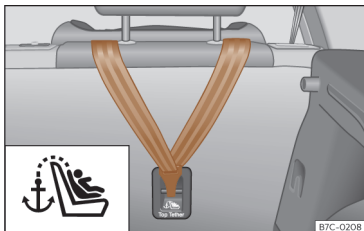

Fig. 28 Back of the rear seats: Top Tether securing rings.
- Slide the strap and secure it properly with the anchorage of the backrest»» Fig. 28 .